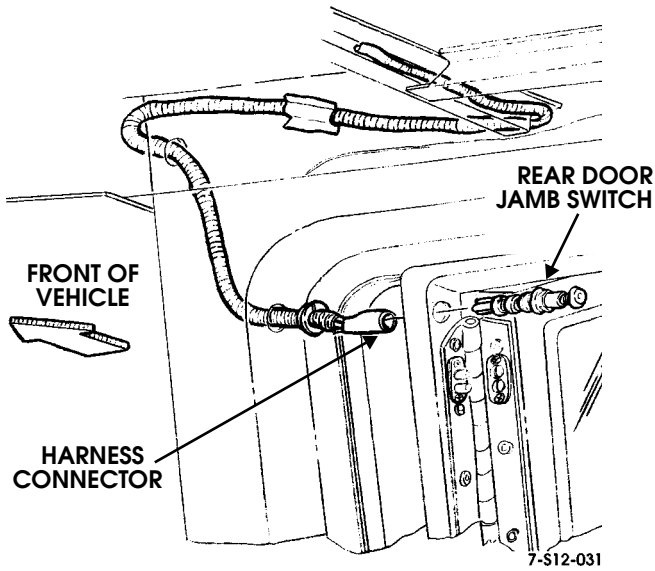

Figure 12-109: Rear Vertical Door Jamb Switches (Station Wagon Models)
- Disconnect roof harness connector from right and left rear vertical door jamb switches, if equipped (Figure 12-109).
3. Connect roof harness connector to right and left rear vertical door jamb switches, if equipped (Figure 12-109).